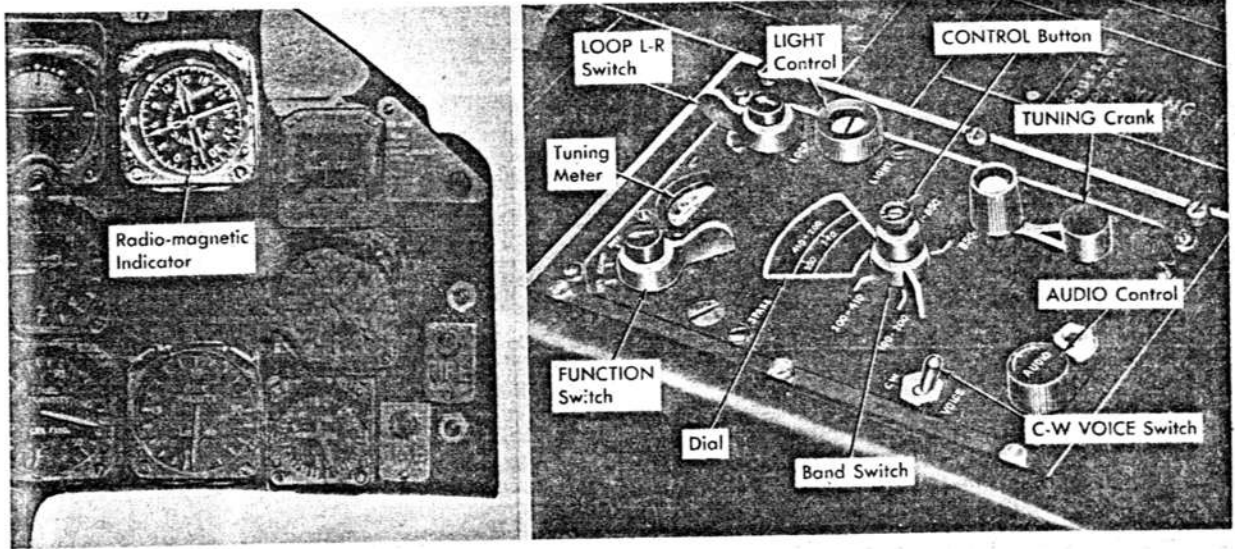

Figure 4-6. Radio Compass AN/ARN-6 Controls
tinuous indication is given on pointer No. "1" of the radio-magnetic indicator (figure 4-6) which serves also as an indicator for the G-2 compass system and the AN/ARN-6 radio compass.
GENERAL. The radio compass equipment can be used as a homing compass for position finding or as a radio receiver. Electrical power for the equipment comes from the secondary bus and the circuit is protected by a circuit breaker on the right-hand console. **CONTROLS.** The controls for the radio compass are shown in figure 4-6.
**RADIO-MAGNETIC INDICATOR.** The radio-magnetic indicator (figure 4-6) is used for three systems. The dial rotates for G-2 compass indications, the pointer marked "1" is used for AN/ARA-25 homing indications, and the pointer marked "2" is used with the radio compass AN/ARN-6.